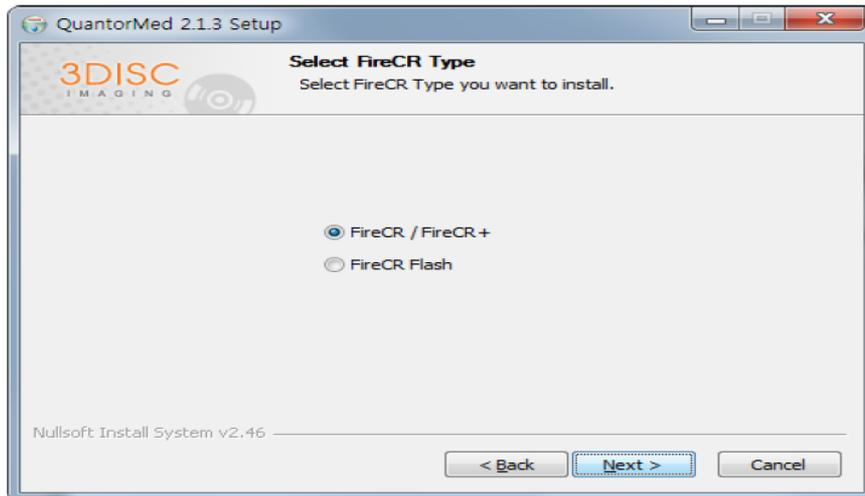

Figure 2.4 FireCR Model Selection Dialog Box
- Choose FireCR model and click the “Next” button as shown in Figure 2.4